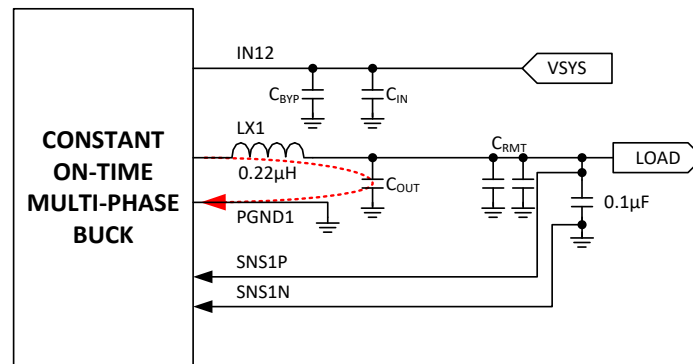

Figure 1. Buck power stage loop.
- The power stage loop (**Figure 1**) that is made by the LX traces, inductor (L), and output capacitor ( $C_{OUT}$ ) coming back to the PGNDx bumps should be minimized for EMC considerations.